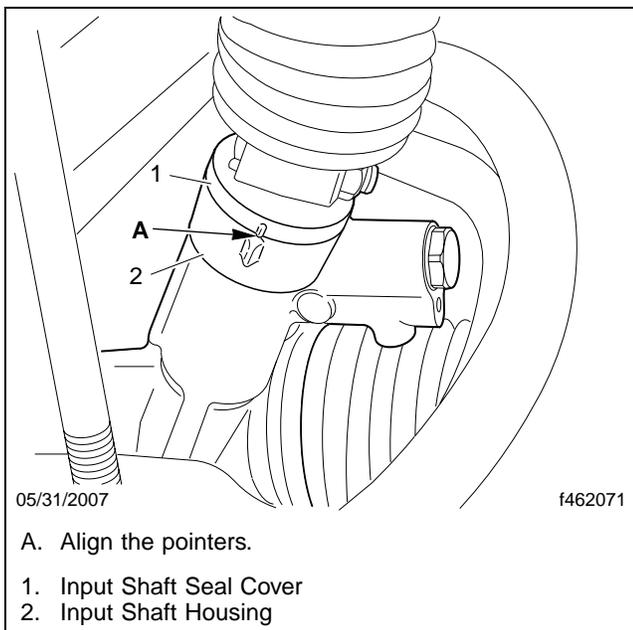

Fig. 4, Pointer Alignment
- 18.2 Align the pointers on the input shaft seal cover and the input shaft housing. See **Fig. 4**.
- 21.2 With the wheels on turnplates, center the rack travel by aligning the timing pointers on the input shaft seal cover and the input shaft housing. See **Fig. 4**.